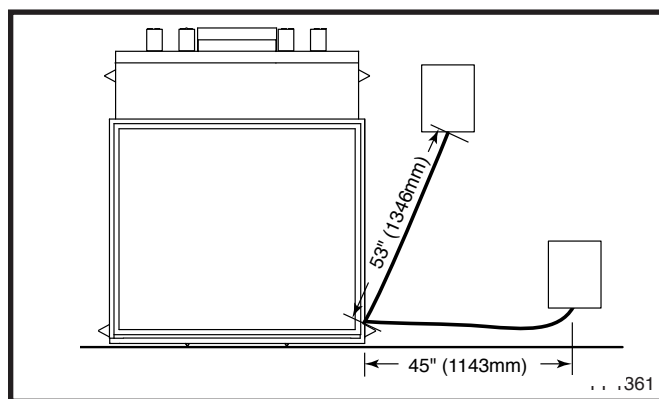

Fig. 7 Valve box assembly location.
5. The gas components are located in the control panel assembly attached to the right side of the unit. Choose the desired location on the wall or mantel for the valve box assembly. The conduit length is 5' (1524mm). (Fig. 7) The framing dimensions for the box are 12 1/4" L x 9 1/4" W x 5 5/8" D (311mm x 235mm x 143mm). When the framing for the box is complete, remove the screws securing the valve box to the outer casing. Carefully remove the valve box and, without stressing the conduit, slide the box into the framed opening. Replace the screws removed from the side of the outer casing.